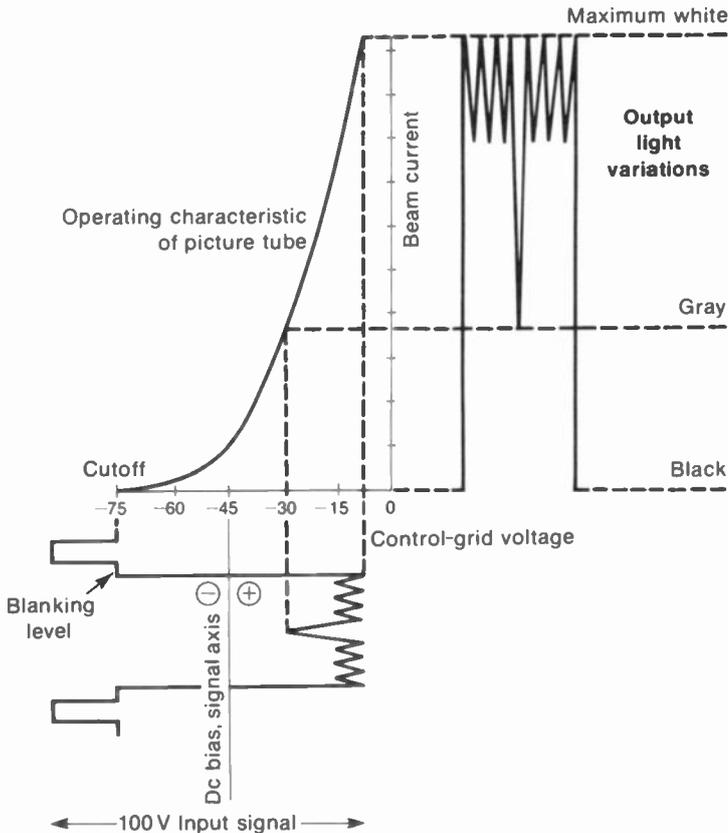

FIGURE 13-4 VIDEO SIGNAL VARYING THE GRID VOLTAGE OF PICTURE TUBE.
**Video signal and picture reproduction.** The function of the video signal is to vary the amount of beam current in the picture tube. This intensity modulation reproduces the light or shade of the picture elements. Figure 13-4 shows how the input video signal voltage for one line, impressed between grid and cathode of the picture tube, results in reproduction of the picture elements for that line. This operating characteristic, or transfer curve, is for the picture tube, not for the video amplifier.
If the polarity is opposite from that shown in Fig. 13-4 for control-grid voltage, the result will be a negative picture in the same sense as a photographic negative. The dark parts of the actual scene will be white on the screen of the picture tube. Also, the white parts of the picture will be reproduced as black.
1. *Negative sync polarity.* See the video signal in Fig. 13-4. The sync voltage is the negative peak of the signal, while the white video is the most positive part.